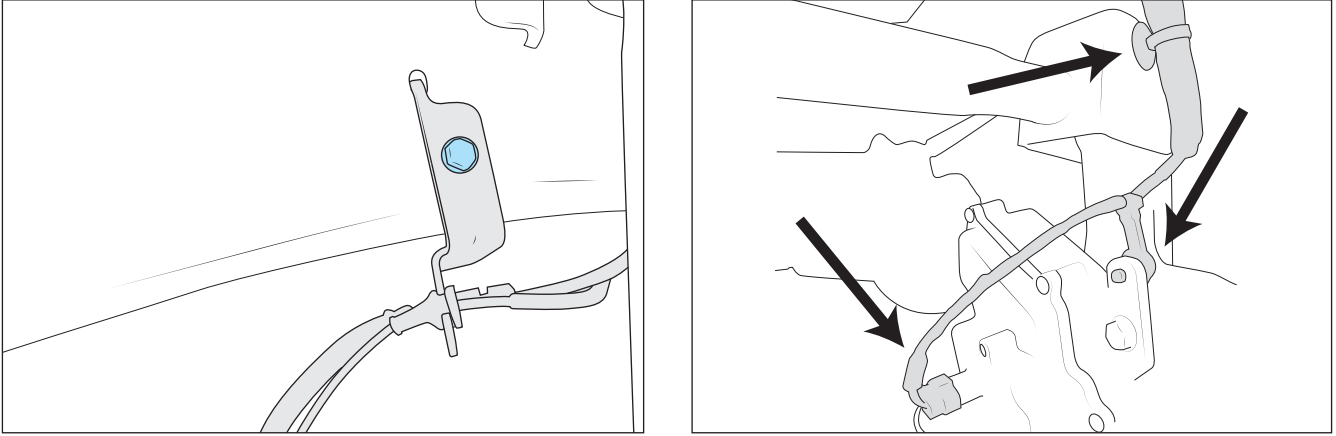

Figure 13: Brake Line Bracket (left) Axle Disconnect (right)
4. Disconnect brake line brackets at frame, electrical connector for axle disconnect, and push fastener for axle disconnect to allow extra droop (Fig 13).